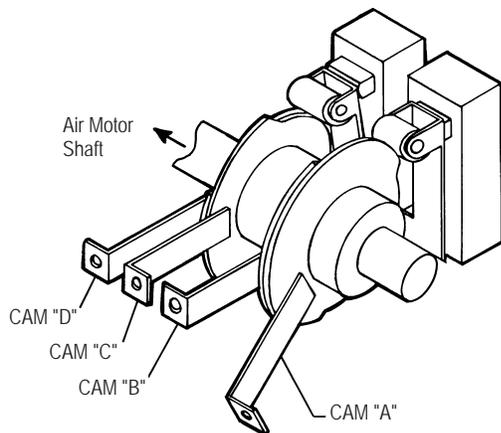

Fig. 1. Adjustable cams and limit switches on Series 1600- -A Air Motor
2. With the burner on low fire, set Cam A (Fig. 1) to actuate the outer switch, closing the normally open circuit (Leads 1 and 2).